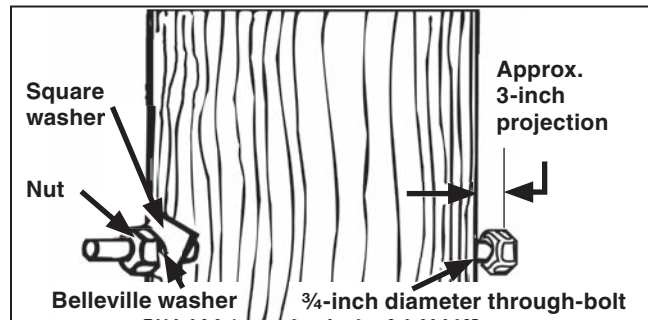

Figure 3. Install the through-bolts. Use a square washer against the wood pole and a Belleville washer between the square washer and the nut.
**STEP 2.** Insert a  $\frac{3}{4}$ -inch diameter through-bolt (not furnished) into each hole as shown in Figure 3.